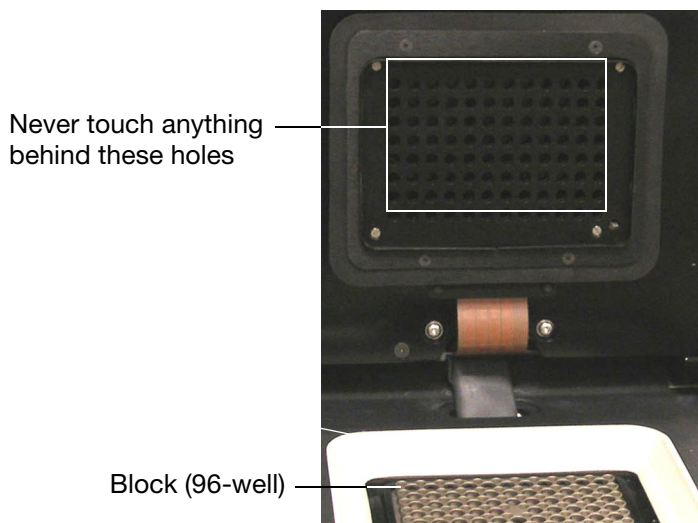

Figure 106. Heating plate holes in the inner lid.
- Never clean or otherwise touch the optical system behind the heater plate holes in the inner lid (Figure 106)
WARNING! Never touch or allow solutions to touch the optical system that is located behind the heated plate holes in the inner lid (Figure 106).